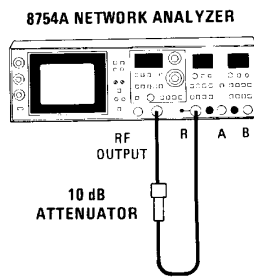

Figure 5-30. R Sampler Adjustment Test Setup
Equipment is for two adjustment test setups, Figures 5-30 and 5-33.
- a. Connect equipment as shown in Figure 5-30. The attenuator should be connected directly to R INPUT.